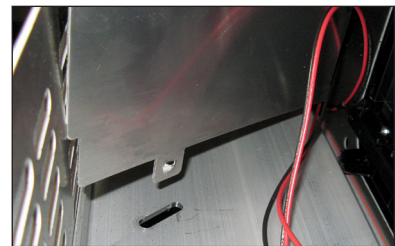

Figure 20: Fan Plenum Tab
3. When the plenum tabs disengage, gently pull the plenum upward and remove it from the display. Refer to **Figure 20**.